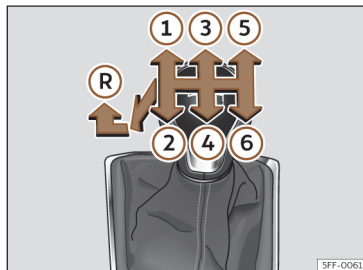

Fig. 114 Diagram of a 6-speed manual gearbox.
Gear positions are indicated on the gear lever >>> **Fig. 114**.
- With the gear lever in neutral, push it down, move it all the way to the left and then forwards to select reverse gear >>> Fig. 114 (R).